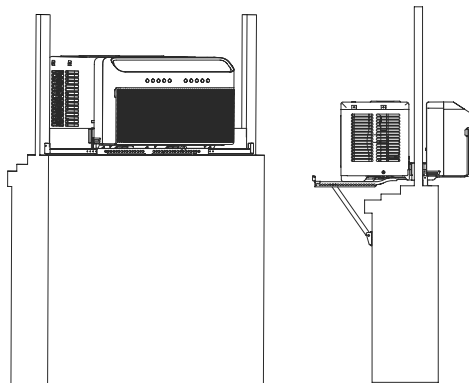

Figure 5
A. Place the AC unit on support bracket: Align the window to the grooved part of the unit. See Figure 5.